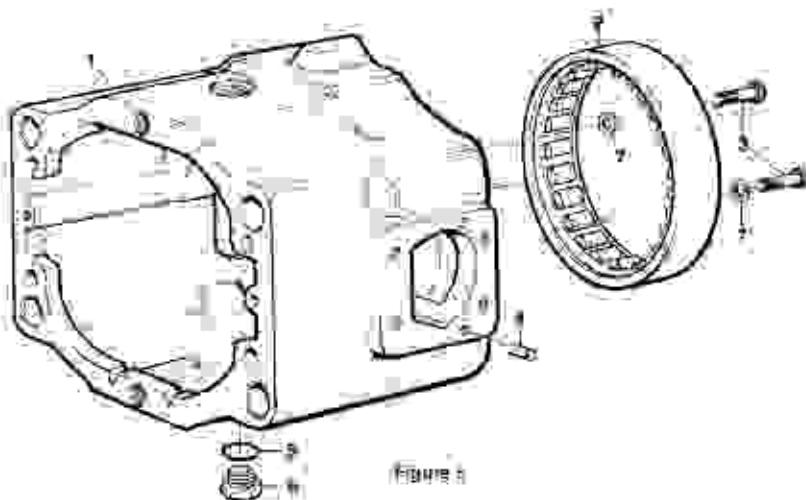

Figure 5
See figure 5 Clean housing (1) and position on a flat surface with the large open end (2).
PARTS LIST FOR FIGURE 5